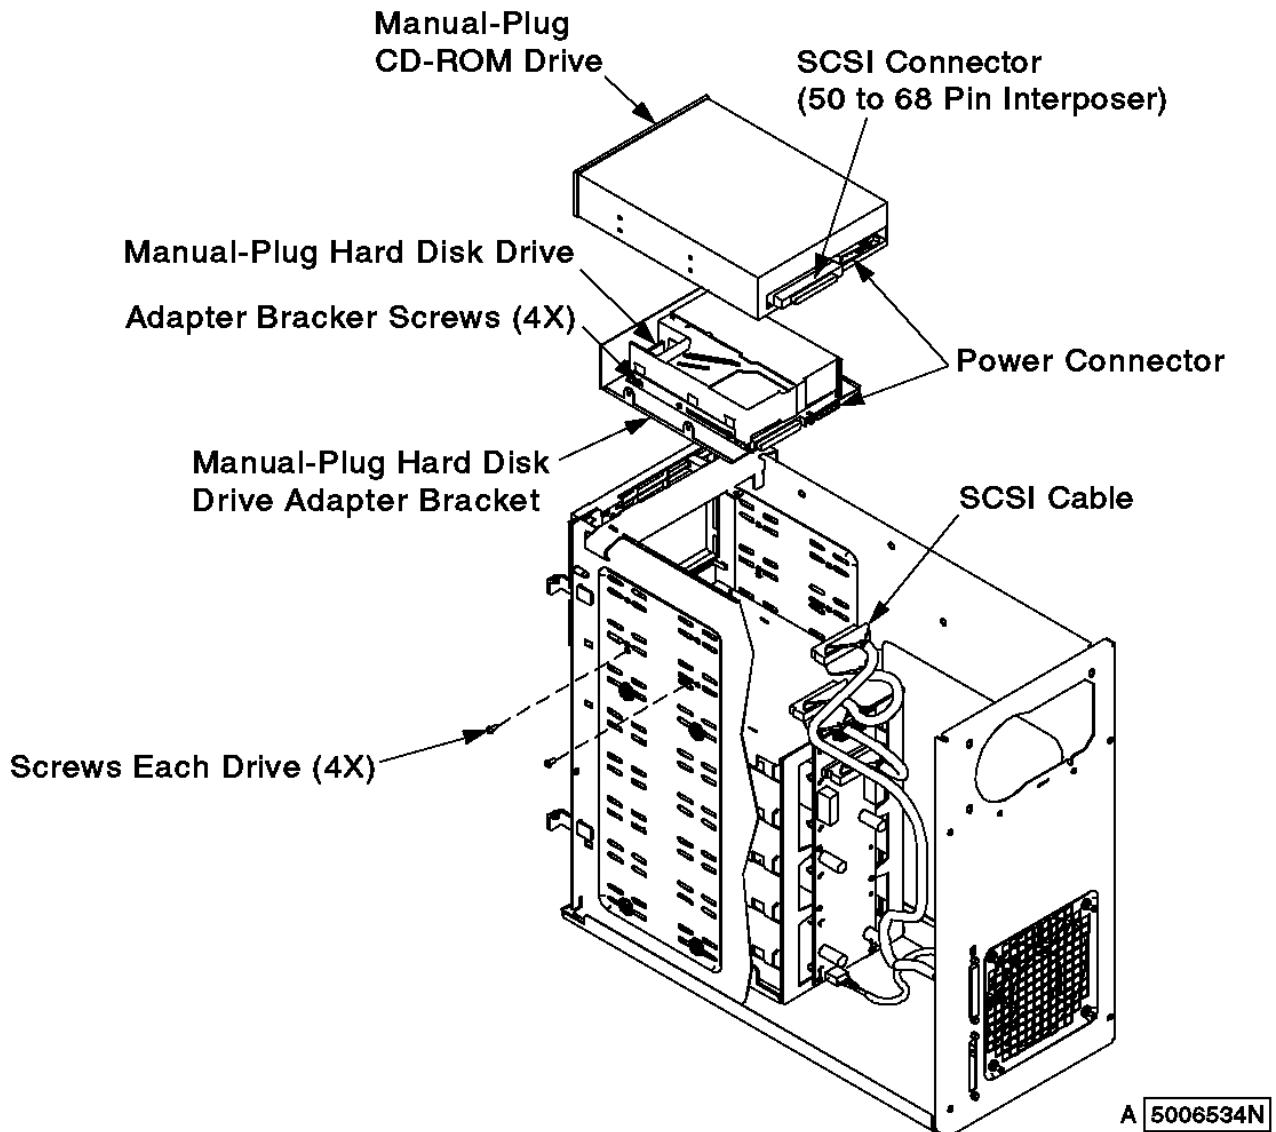

Figure 5-19. SCSI Cable Connections and Screw Locations for Manual-Plug Devices
4. Disconnect the power connector from the drives (see Figure 5-19).
- a. Disconnect the SCSI cable from the hard disk drive (see Figure 5-19).
- c. Disconnect the SCSI cable and the interposer from the CD-ROM drive (see Figure 5-19).
6. Remove the screws that attach the drives in the bay (see Figure 5-19).